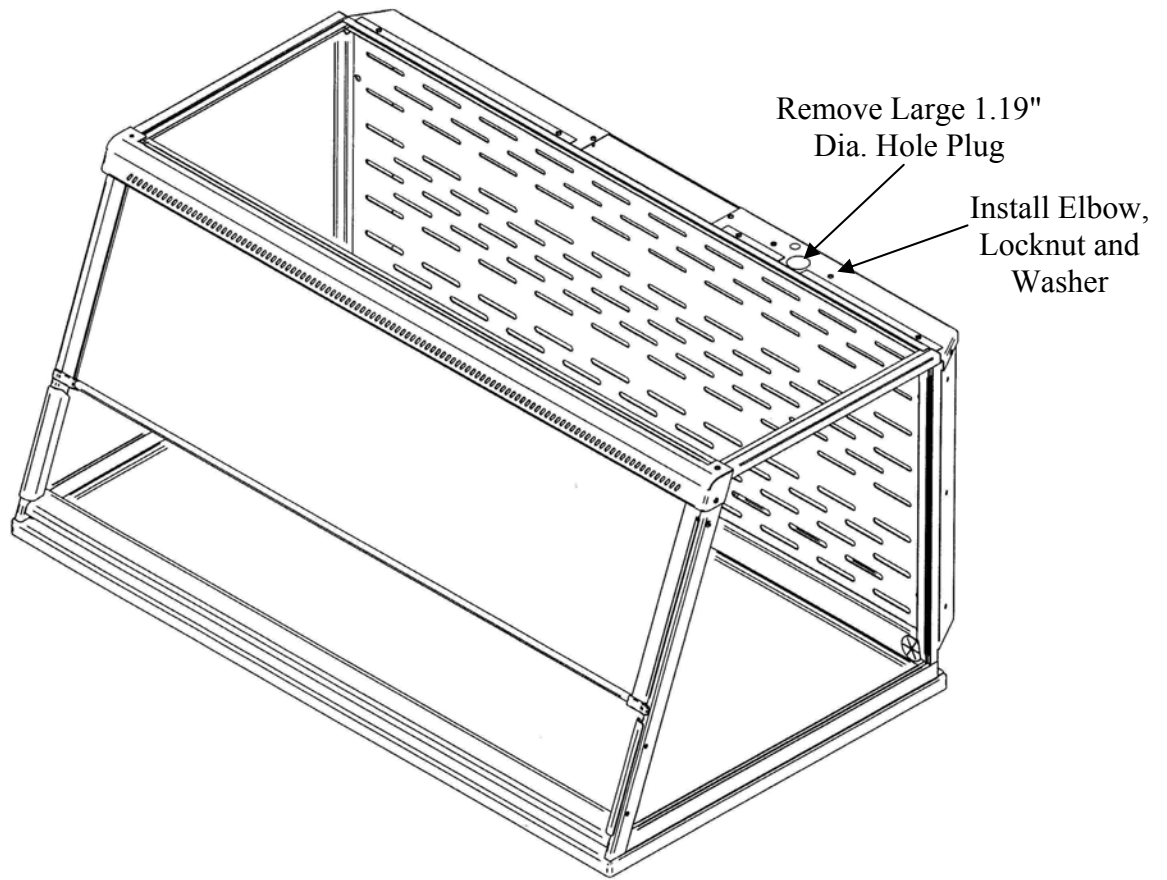
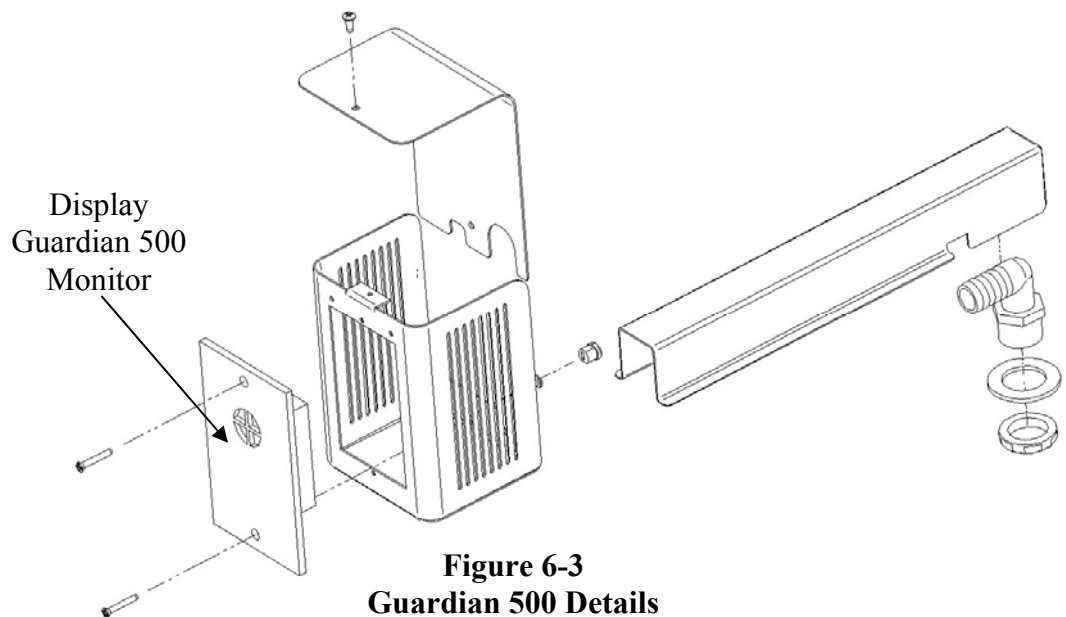

Figure 6-2
Figure 6-3
2. First remove the large 1.19" dia. gray hole plug. See Figure 2. See Figure 3 only to reference internal assembly of the airflow monitor. Locate the elbow, locknut, and washer and install it in the 1.19" dia. hole per Figure 6-2 and Figure 6-3. The enclosure baffle pivots down to install the elbow, washer and locknut.